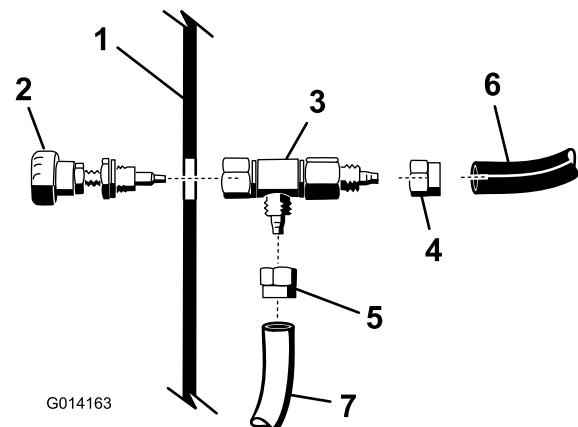

Figure 20
5. Loosen the nut that secures the knob assembly to the tee fitting as shown in Figure 20.
6. Install the blue and white tubes from the foam hose under the dashboard to the regulating valve body as shown in Figure 20.